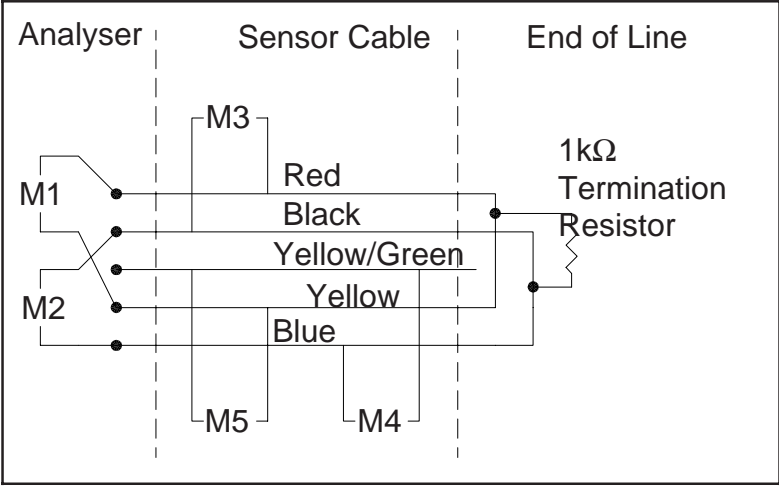

Figure 34
1. Set the multi-meter to read resistances on the 200Ω range. At the analyser end measure the resistance of the loop formed by the red and yellow wires (M1, Figure 34) and note the value.
2. Again, at the analyser end measure the resistance of the loop formed by the black and blue wires (M2, Figure 34) and note the value.
5. At the analyser measure the resistance between the red wire and the black wire. (M3, Figure 34) This value should be 1kΩ plus the average loop resistance obtained from steps 1 and 2.
6. Set the meter range to 2000kΩ range and check that the resistance between the green/yellow earth wire and the yellow wire is greater than 1 MΩ (M5, Figure 34). Repeat this test to verify no leakage between the blue wire and the earth wire (M4, Figure 34).